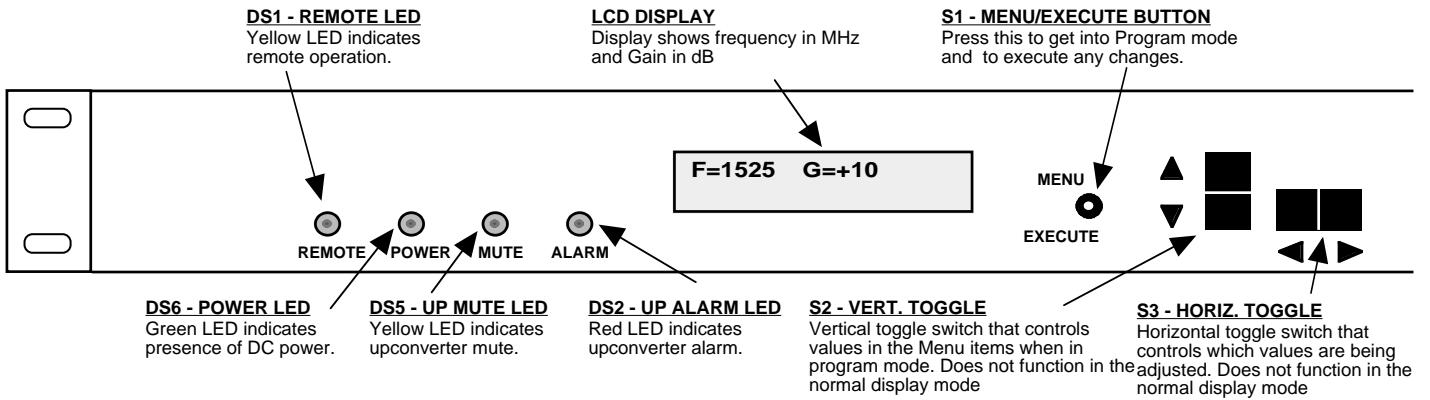

FIGURE 2.2 2015-03 Front Panel Controls and Indicators
7. Be sure DS6 (green, DC Power) is on and DS2 (red, Alarm) is off (Figure 2.2).
Alarm indications appear on the LEDs (see figure 2.2).